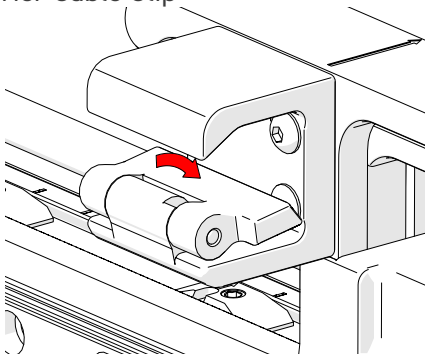
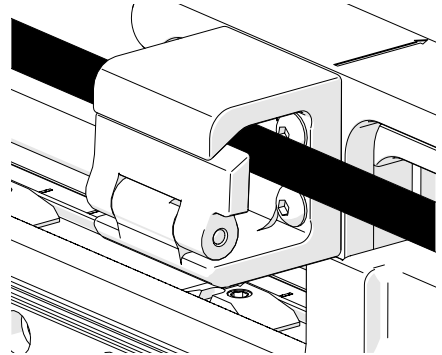

Fig. 29 - Carrier cable clip flap
Fig. 30 - Carrier cable clip
1. Push the cable clip flap down (Fig. 29) to insert the necessary cables and hoses (Fig. 30).